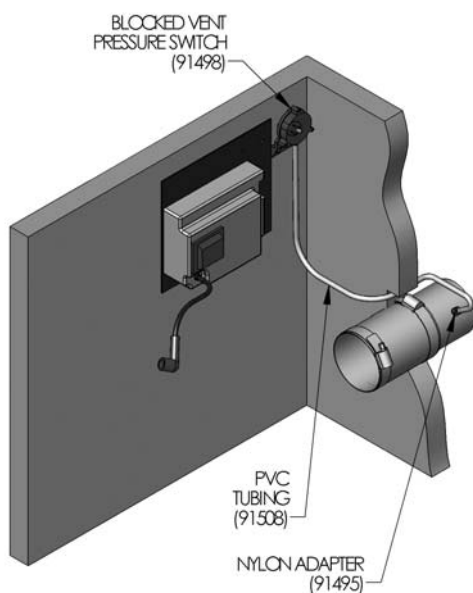

Figure 3.1: Location of the Blocked Vent Pressure Switch
- c) Using two of the screws provided attach the blocked vent pressure switch to the inside of the jacket as illustrated in Figure 3.1.